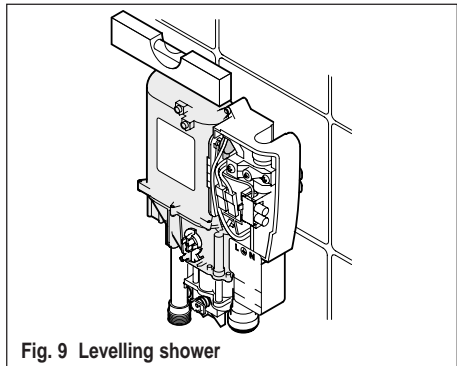

Fig. 9 Levelling shower
5.3.4 Ensure shower is level, use a small spirit level on top of the tank as shown in fig. 9.